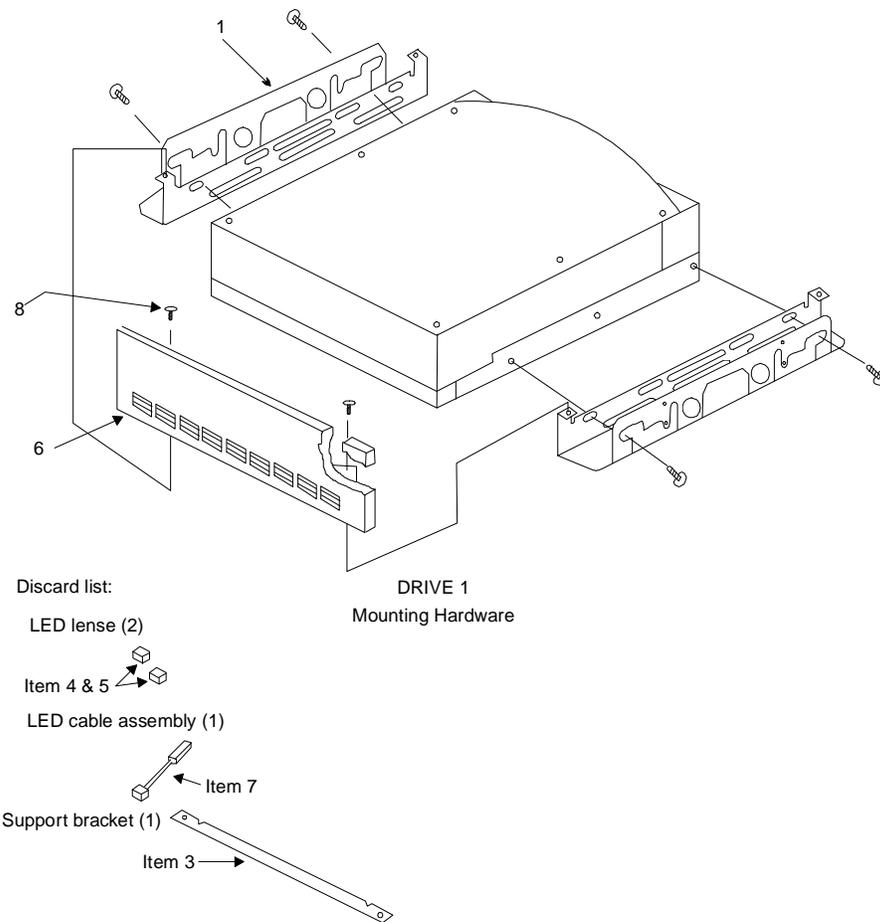

Figure 10-11. Universal Installation Kit
10. Assemble the installation kit according to directions on the box (see Figure 10-11).